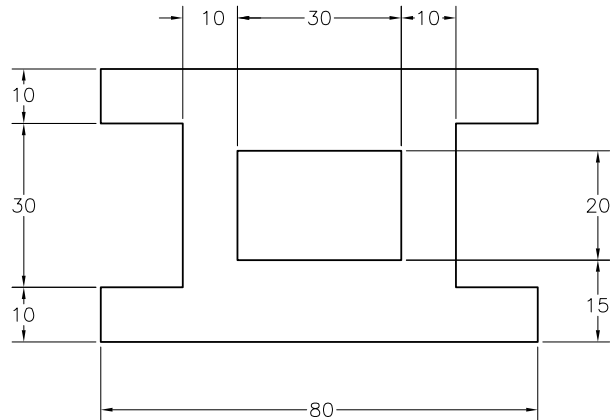
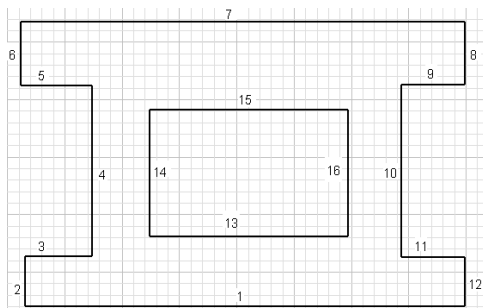

Figure 3-44 Dimensioned sketch for Tutorial 1
Figure 3-45 Initial sketch drawn using the sketching tools
In this tutorial, you will draw the sketch shown in Figure 3-44. This sketch is same as the one drawn in Tutorial 2 of Chapter 2. In this tutorial, you will not use the **Inventor Precise Input** toolbar while drawing the initial sketch. After drawing the sketch, you will add the required constraints and then dimension it. Also, you will place a point at the origin and fix it at that location. Then you will dimension the sketch as well as fully constrain the sketch using this point. **(Expected time: 30 min)**
- b. Draw the initial sketch using the **Line** and **Two point rectangle** tools, refer to Figure 3-45.
1. Using the **Line** tool and the **Two point rectangle** tool, draw the required sketch similar to the one shown in Figure 3-44. You do not need to draw the sketch to the exact length. Use the temporary tracking option for drawing the sketch. For your reference, all lines in the sketch are numbered, see Figure 3-45.
It is evident from Figure 3-45 that some of the lines need to be of the same length. For example, lines 1 and 7, lines 2 and 6, lines 8 and 12, and so on need to be of the same length. You can do so by using two options. In the first option, you can assign dimensions to all these lines. However, this will increase the number of dimensions in the sketch. In the second option, you can apply constraints that will force the lines to maintain an equal length.